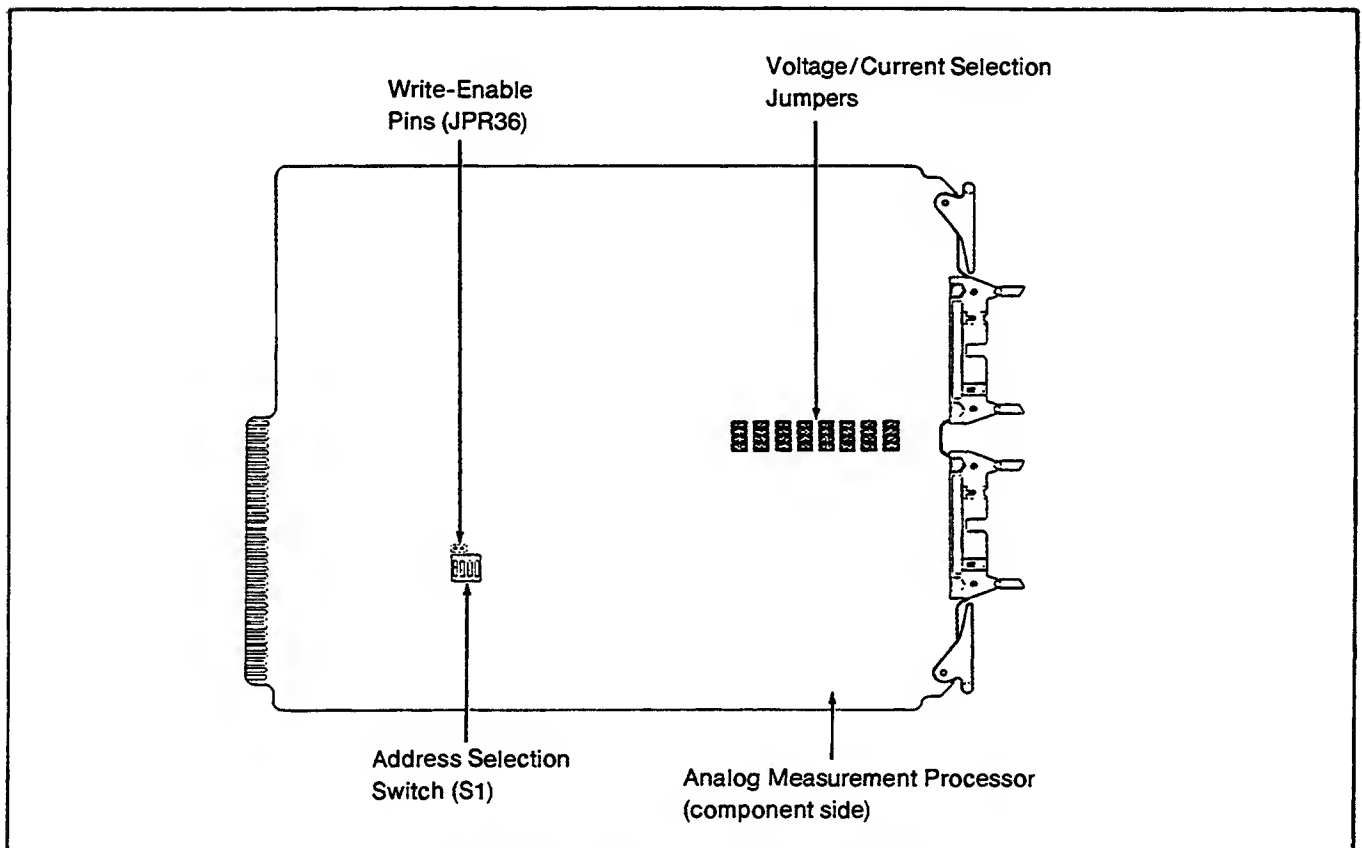

Figure 010-8. Calibration Jumper Location
- b. Place any one of the voltage/current configuration jumpers over the write-enable pins (JPR36). JPR36 is located just above Switch S1. Refer to Figure 010-8 for calibration jumper locations.